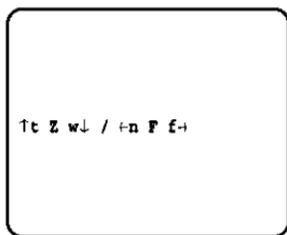

Fig. 12
1. Display the Zoom/Focus Menu as shown in Fig. 12 by repeating the previous procedures.